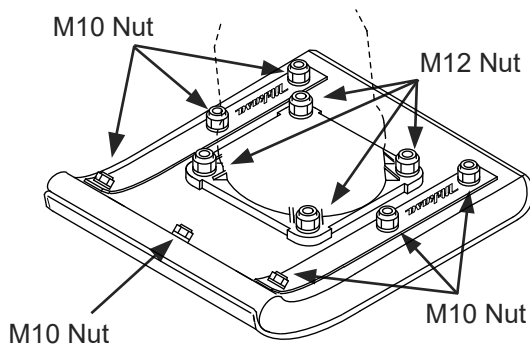

Fig.8
- Retighten the all nuts for assembling foot (fig.8).